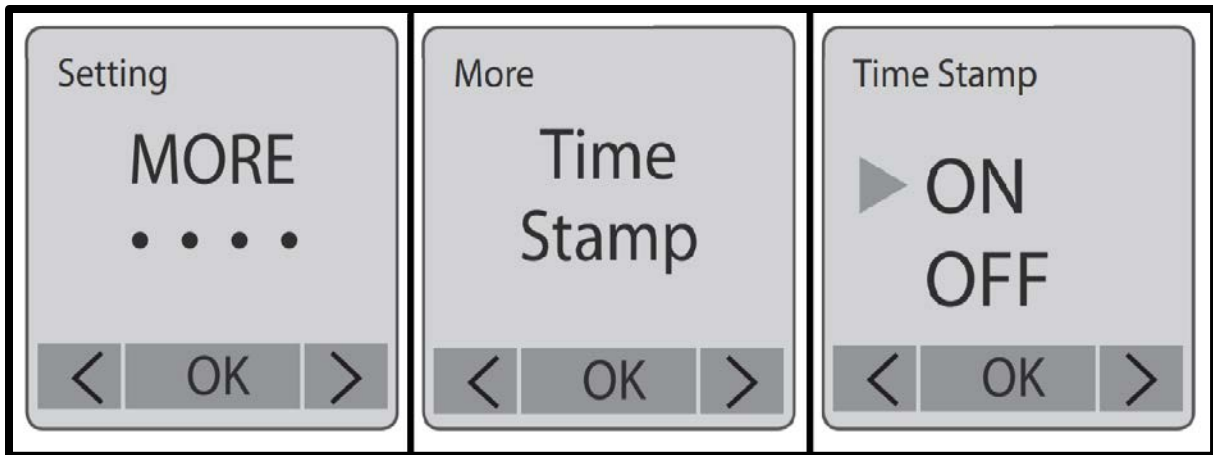

Figure A.11.7: Setting the time stamp which will be affixed on the bottom of the time lapse photos.
8. Press the "OK" button to re-enter the "Settings" screen. On this screen, use the "MENU" and "TIME" buttons to navigate to the "MORE ..." option as shown on the left of Figure A.11.7. Press the "OK" button to select this option.
- a. Use the "MENU" and "TIME" buttons to navigate to the "Time Stamp" option as shown on the middle of Figure A.11.7. Press the "OK" button to enter the "Time Stamp" screen as shown on the right of Figure A.11.7.